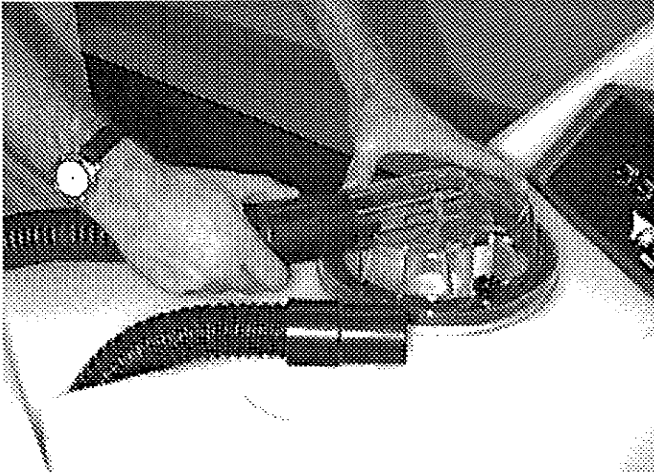

FIG. 7
1. Disconnect vacuum hose from clear recovery dome and replace with attachment vacuum hose. (Figure 7)